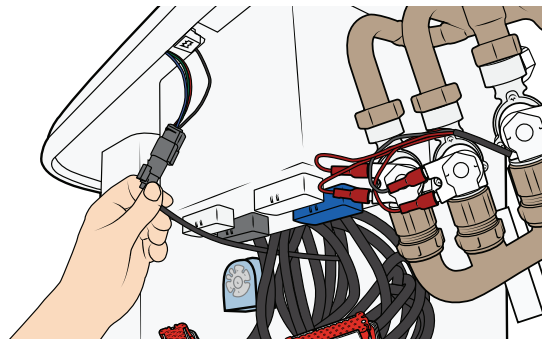

Figure 92
32. If equipped with Ambient light, connect the Ambient light connector. See Figure 92.